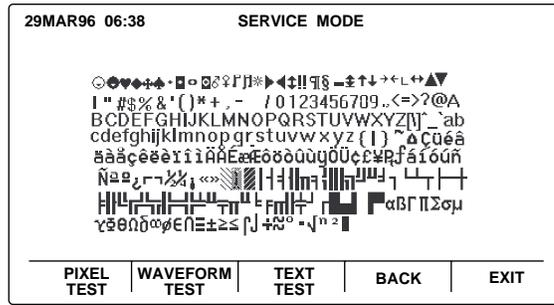

Figure 3-6: Text Test Display
- Press softkey #3, "TEXT TEST" to display all available text characters. Verify that the screen is similar to the one illustrated in Figure 3-6.